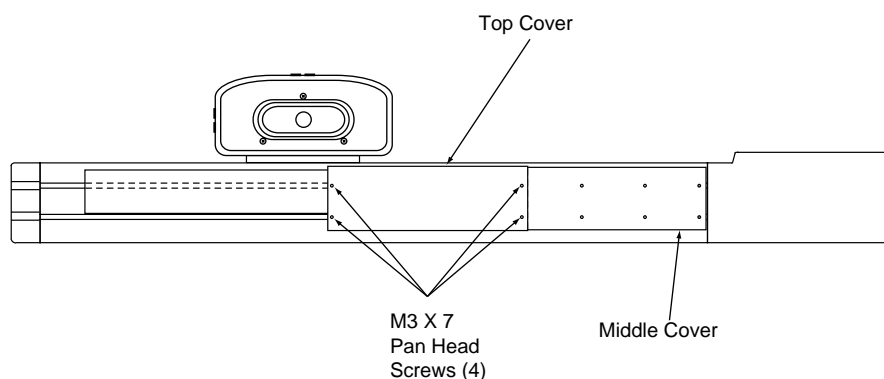

Figure 6-13. Securing the Cover Plates
4. Place the top cover over the bottom cover and secure with four M3 x 7 pan head screws (see Figure 6-13).